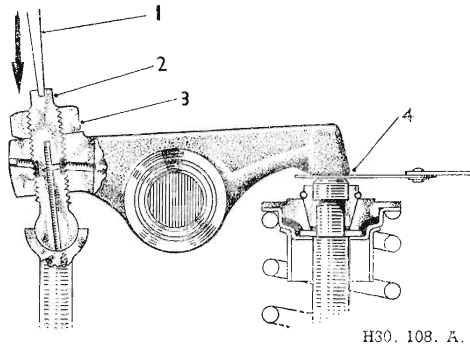

Fig. A.13. Adjusting valve clearance.
- (1) If adjustment is necessary slacken off the locknut (3 Fig. A.13) whilst pressure is applied, with a screwdriver, to the adjusting screw.
- (2) Insert a .012 in. feeler gauge between the valve stem and rocker arm and raise or lower the adjusting screw until the correct clearance is achieved.
- (3) Tighten the locknut but re-check the clearance in case the adjustment has been disturbed during the locking process.
- (4) When replacing the valve cover, take care that the joint washer (using a new one if necessary) is properly seated to ensure an oil tight joint.